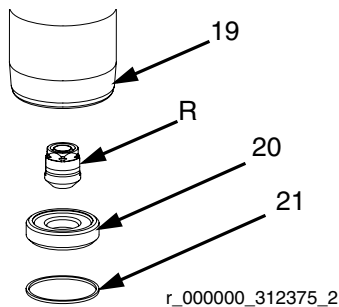

FIG. 10
- Use an o-ring pick to remove seal (21) from intake valve housing (19). Discard seal; use a new one for reassembly. See FIG. 10.
- Pull intake seat (20) out bottom of intake valve housing (19). Take care not to drop intake valve assembly (R) as it comes free, and set it aside for later.